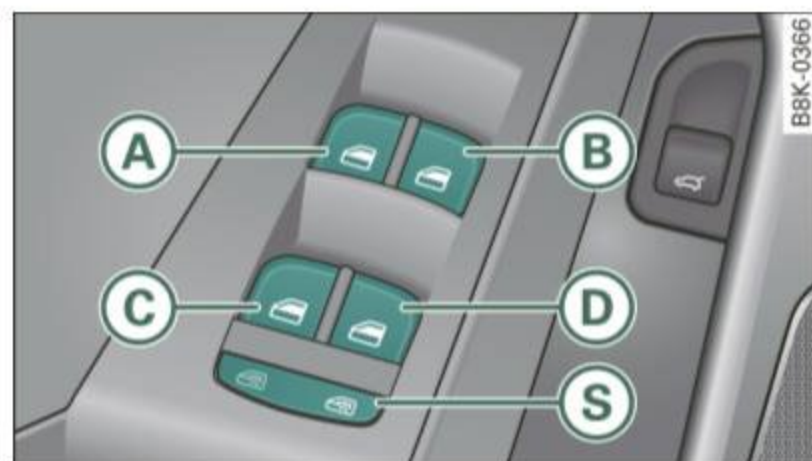

Fig. 45 Section of the driver's door: Controls
When the safety button (S) ⇒ fig. 45 is pressed, the LED in the button lights up. The power window switches in the rear doors are switched off.